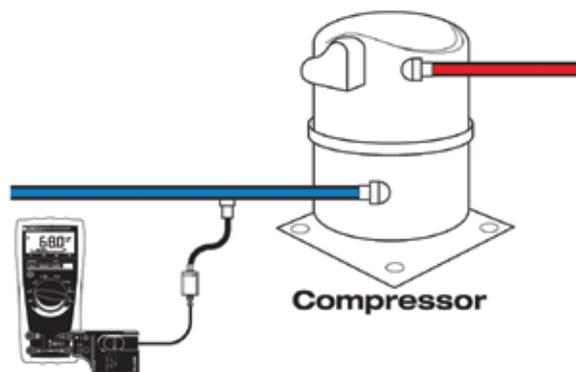

Figure 2: Use a multimeter and a pressure module to quickly and accurately determine suction pressure.
To test small hermetic and semi-hermetic compressors used for medium and low temperature applications, the following method can be used to test for internal valve leakage (*see Figure 2*):
- Check for insufficient airflows across the evaporator using a digital thermometer (see Figure 2). Place a bead thermocouple on the discharge side of the coil and on the return side of the coil. Record the temperature difference on the air conditioning unit - expect about 18 - 22°F (10 - 12°C) temperature difference; on refrigeration units expect about 10 - 15°F (5 - 8,5°C) temperature difference.